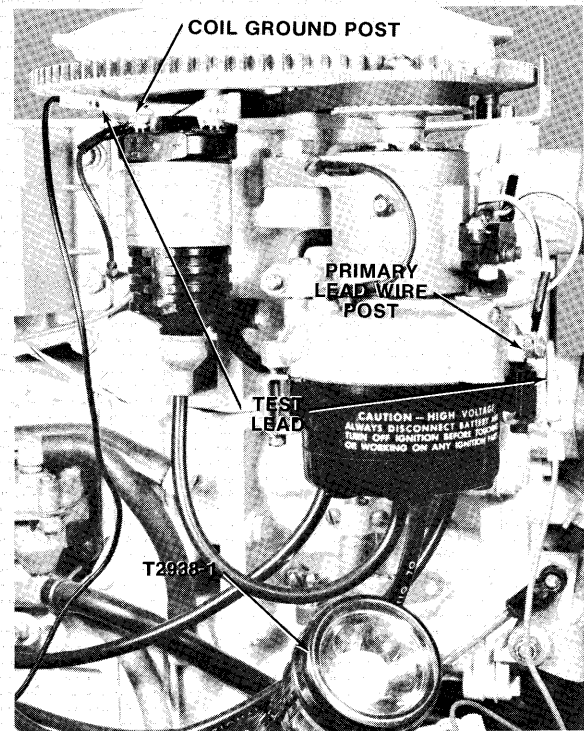

Figure 9—Connecting Leads of Test Light
- K. Connect lead of test light (Special Tool T2938-1) to distributor primary lead wire post and to ground (ground post on coil) as shown in figure 9.